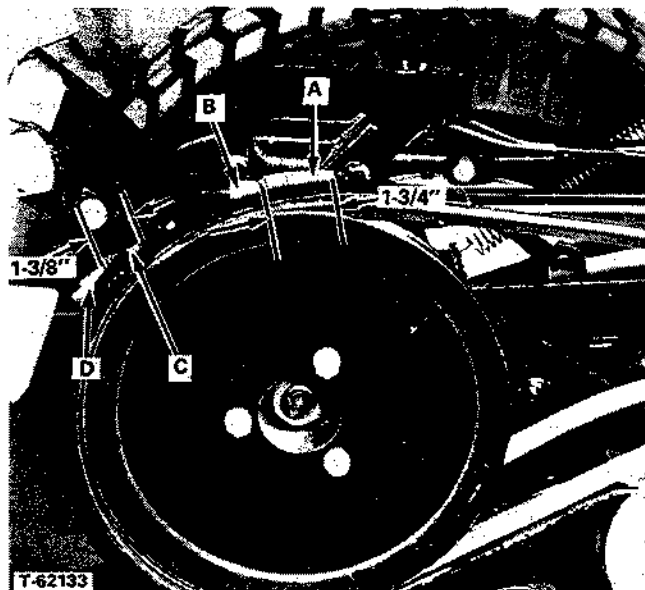

FIGURE 36 - Pulley Brake Adjustment
- The pulley brake return spring (C, Figure 36) should be compressed enough so that it measures 1-3/8" (34 mm) with the clutch-brake pedal released (up). If it does not, turn the nut (D) to obtain the proper measurement.
- While holding the clutch-brake pedal down fully, measure the length of the spring (A) on the pulley brake rod. It should be compressed to 1-3/4" (45 mm). If it is not 1-3/4" (45 mm) loosen the adjusting nut (B) and move it forward or back until the proper measurement is reached.